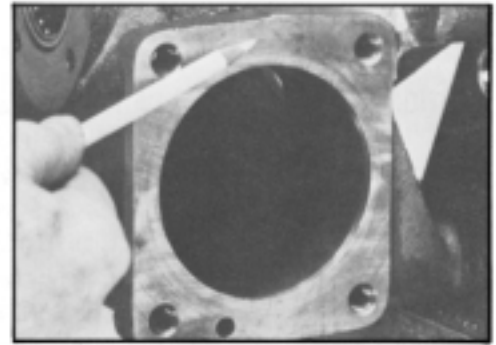

Figure 95
7. Inspect the housing (55) faces for nicks that would prevent proper sealing. Replace the gear housing if these nicks are present and cannot be easily removed with a fine-toothed flat file without changing the dimensional characteristics. SEE FIGURE 95.